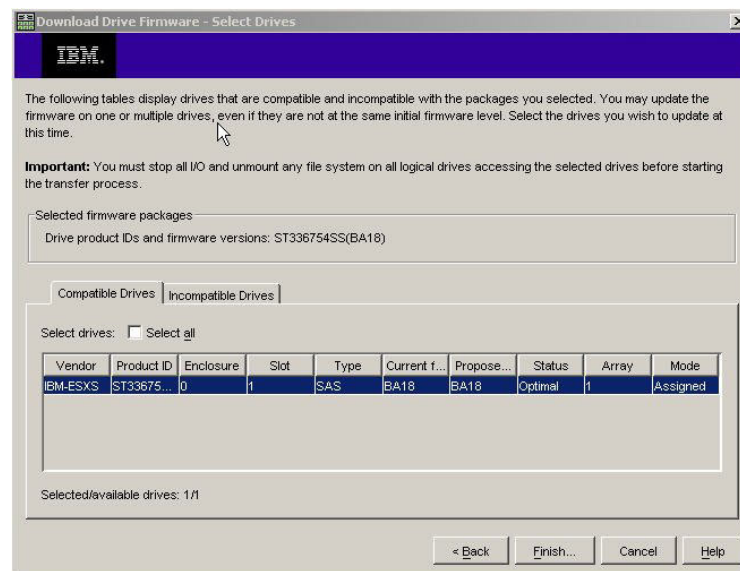

Figure 25. Select Drive window
8. In the Select Drive window (shown in Figure 25), click the **Compatible Drives** tab. The Compatible Drives page contains a list of the drives that are compatible with the firmware package types that you selected. Press and hold the Ctrl key while you use the mouse to select multiple drives individually, or press and hold the Shift key while you use the mouse to select multiple drives that are listed in series. The compatible firmware that you selected in steps 4 on page 96 and 5 on page 96 are downloaded to the drives that you select.